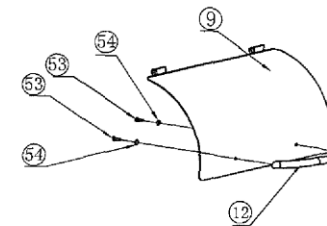

FIG7
Penetrate 1/4-20* 1/2 Hexagon Bolt (53) through (Ø18*Ø6.S*2.0mm) Gasket (54) and Lid (9) directly to the handle and tighten up. Do not screw the bolt over tight.As shown in FIG7